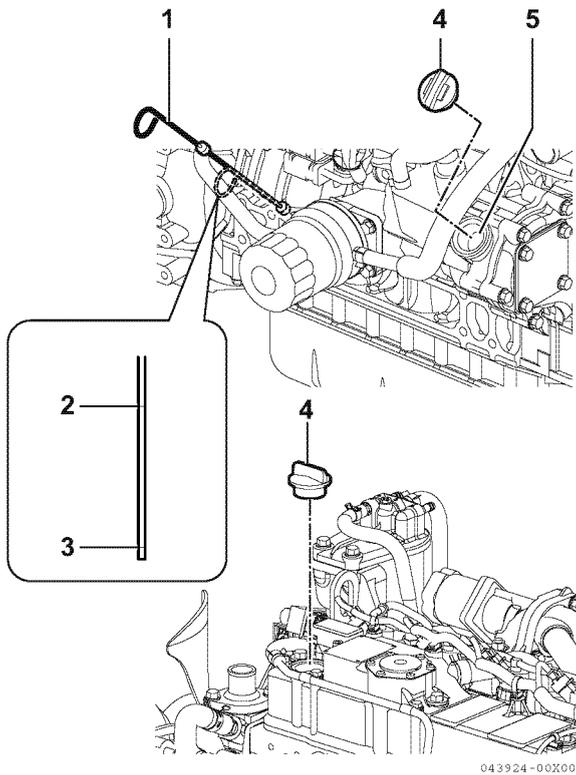

Figure 4-24
2. Remove dipstick (1, **Figure 4-24**) and wipe with clean cloth.
4. Remove dipstick. The oil level should be between upper (2, **Figure 4-24**) and lower (3, **Figure 4-24**) lines on the dipstick.
2. Remove oil cap (4, **Figure 4-24**).
3. Add indicated amount of engine oil at the top or side engine oil filler port (5, **Figure 4-24**).
6. Reinstall oil cap (4, **Figure 4-24**) and hand-tighten. Over-tightening may damage the cap.